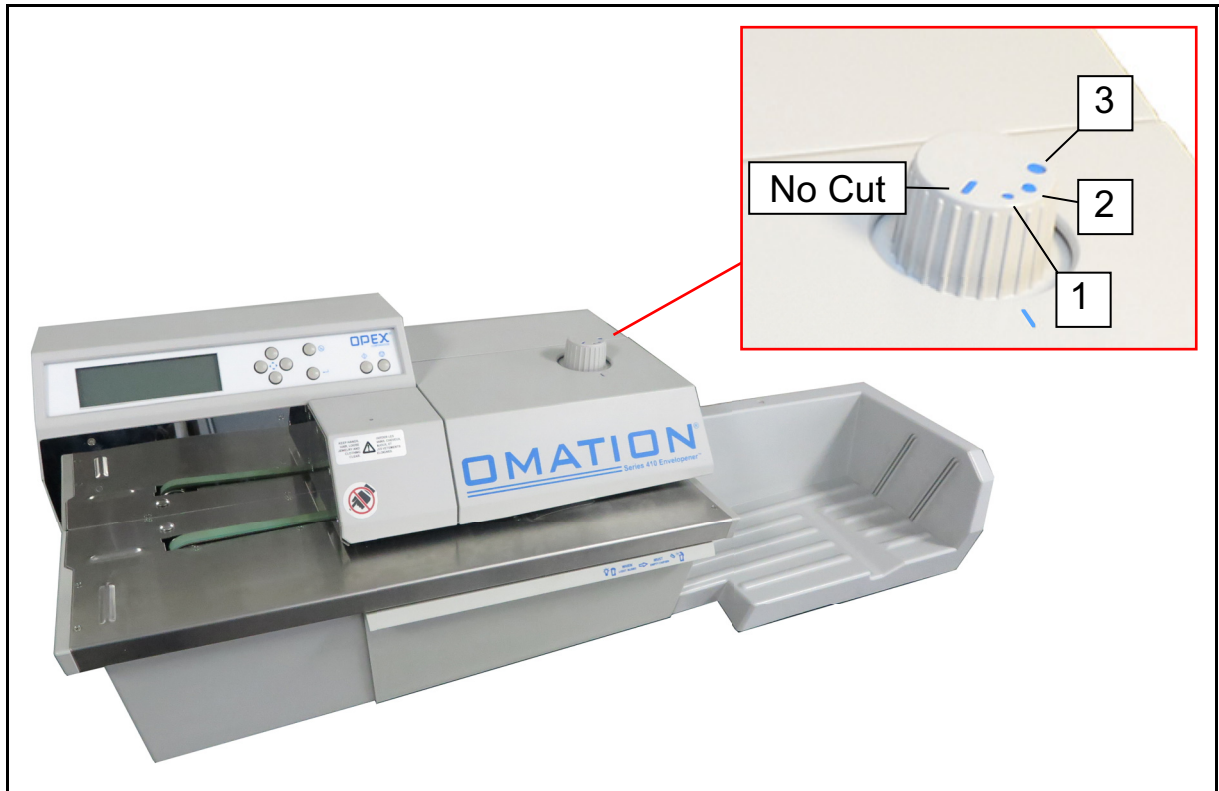

Figure 3-11: Setting the cut depth
8. The display will return to the **Run** screen, with the job name displayed at the top. At this time, you should set the cutter depth knob (Figure 3-11) for the desired cut. Position 1 is the shallowest cut, and 3 is the deepest.